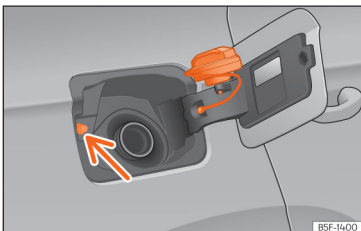

Fig. 208 Fuel tank flap with tank cap attached.
- Place it in the space on the hinge of the open flap >>> **Fig. 208**.
Avoid touching the fuel tank flap lock button >>> **Fig. 208** (arrow). The system will interpret that you have finished and cannot continue refuelling. Press the  button on the driver's door again to continue.